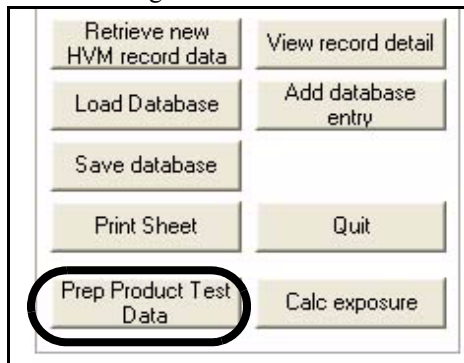

FIGURE 6-2 Load Product Test Data Sheet Module
A. The Data View Display, by left clicking the “Prep Product Test Data” box as shown in Figure 6-2.